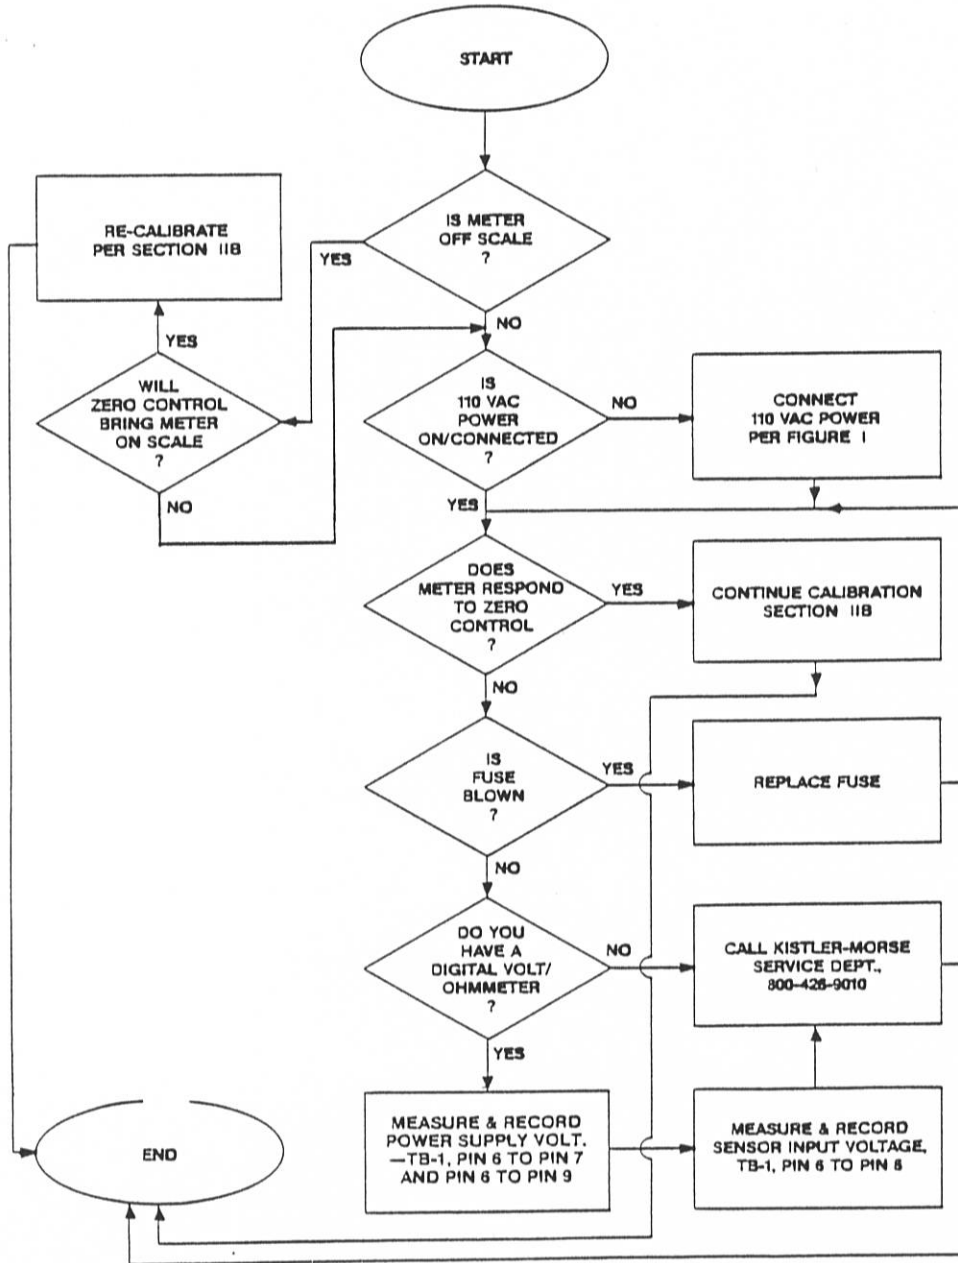

FIGURE 2
- No response to calibration control adjustments, refer to Figure 2 or
- No response to weight/level change, refer to Figure 2.